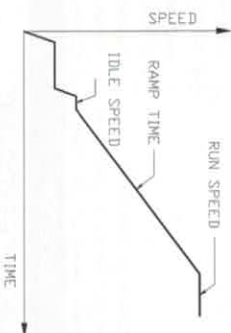

Figure 1
- Stop engine and adjust Ramp Time to it center setting then restart engine. At this time, the engine speed will stay in Idle and slowly Ramp up to normal engine speed. Adjust to preferred Ramp speed. Refer to Figure 1.
- To ensure positive engine starts every time follow step (4) and turn the Idle Speed potentiometer an additional 3 to 5%.